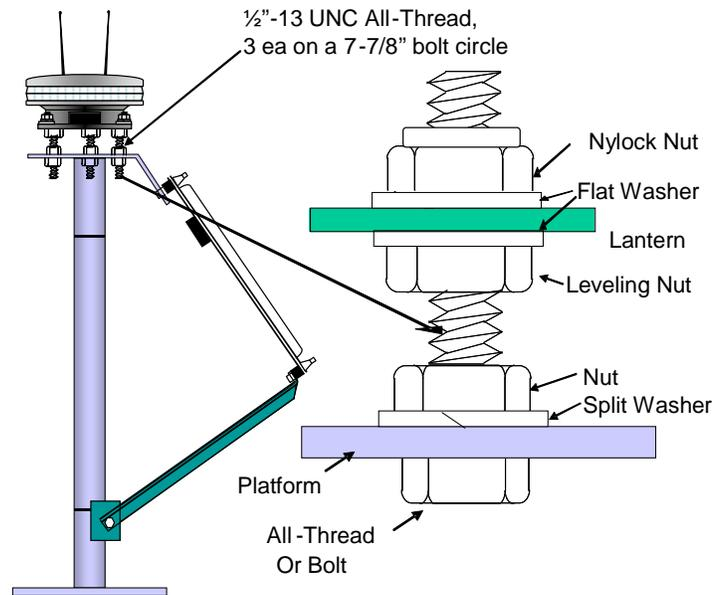

Figure 3-26.
- d. On structures, secure three 1/2" stainless steel bolts (or all-thread) to the structure's mounting plate as shown in Figure 3-26. Install three leveling nuts and flat washers on the bolts so that about 1" of thread is exposed. Place the lantern on top of the leveling nuts, and then install the flat washers and Nylock nuts at the very upper end of the thread. Do not tighten these uppermost nuts – they are positioned at this time to ensure that the lantern doesn't fall off. Level the lantern on structures by adjusting the leveling nuts (use a torpedo level on the top of the lens) - use the "T" method. When the lantern is level, tighten the Nylock nuts.